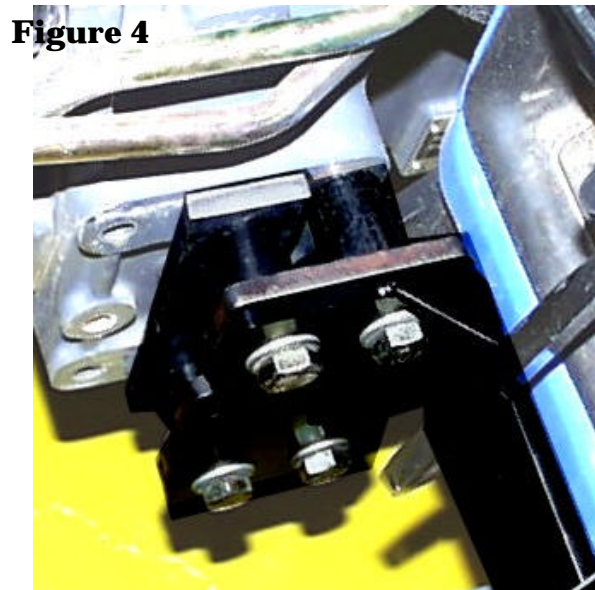

Figure 4
5. Use the mower bracket spacer, and loader spacer along with the left front bracket and loosely fasten into place with the 16MM x 2.0 x 100MM hex bolts provided. Repeat for the right side. See Figure 4.